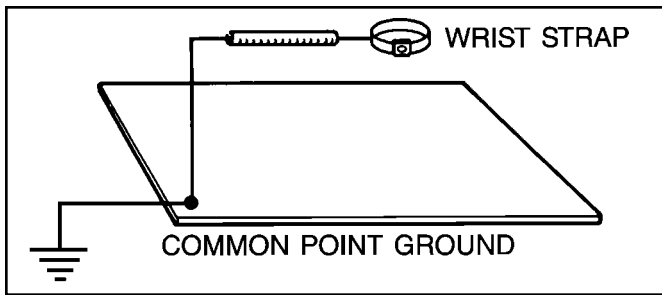

Figure 2. Common point ground connection
3. If using a wrist strap, first attach the wrist strap cord to the groundable point snap on the worksurface. If the worksurface has more than one groundable point snap be sure to make contact to the same point used in Step 2. Connections should be made as shown in Figure 2.